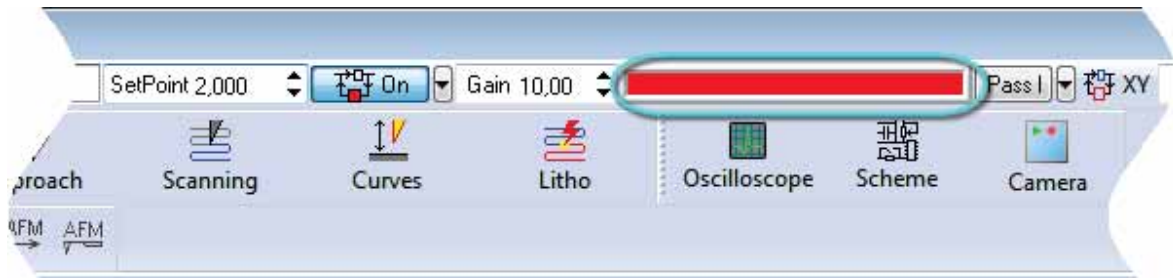

Fig. 7-3. Scanner reached its maximum extension
1. Click the  button in the top bar to close the feedback loop (the button will change its appearance to ) . This starts extension of the Z scanner to its maximum. Progress of the extension is displayed in the Scanner extension indicator (see Fig. 7-3) by degree of the colored filling.